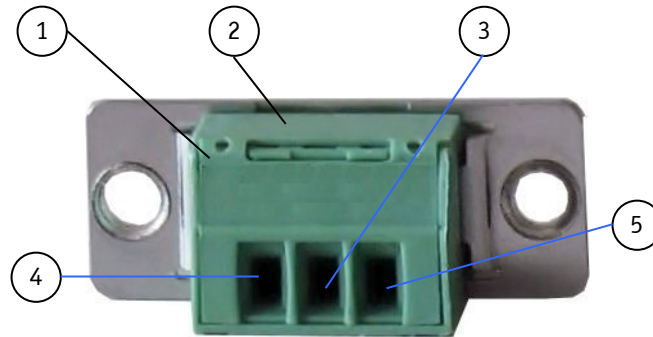

Fig. 51: Phoenix power plug terminal
3. Open the cover (Fig. 51, pos. 2) to have access to the slotted pan head screws.
5. Insert the wires into the corresponding clamp of the Phoenix plug terminal. Make sure that you have the right polarity of the connection [refer to Fig. 51, Fig. 18 or subsection 18.1.1, "(X 101) Power Input Connector"].
7. Close the cover (Fig. 51, pos. 2).
The DC input connector (Fig. 58 and Fig. 18 marked X 101) is located on the front side of the KBox C-101. The KBox C-101 will be connected to a DC main power supply via the supplied Phoenix power plug terminal (see Fig. 51) and corresponding power wires (prepared as described in subsection 11.2.1 "Cabling").
The wires used for power connections must be clearly marked (+/-/functional earth) to ensure that they will be properly connected to the DC IN connector of the KBox C-101 and to the main power source, corresponding to signals marked; refer to Fig. 18 and Fig. 51.